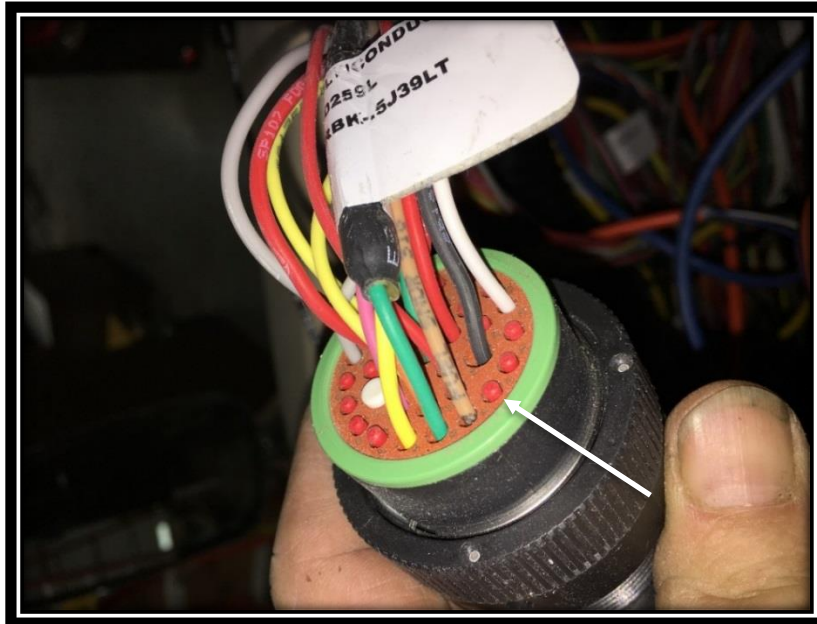

FIG. 2-1
3. Examine harness side connector. If there is a wire in cavity 31 then rework has already been performed, if not then continue rework outlined in steps below. Refer to FIG. 2-1.